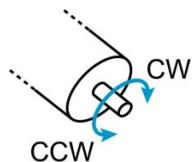

Figure 7-67 Adjustment of SSI commutation offset value | Check sense of rotation
- b) Turn the motor shaft by hand counterclockwise (CCW) as seen towards the motor's mounting flange (→Figure 7-67).